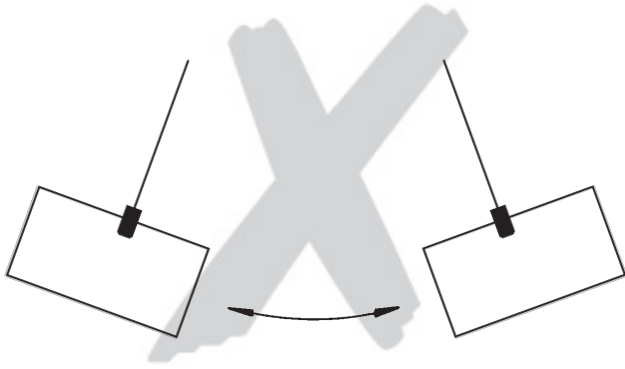
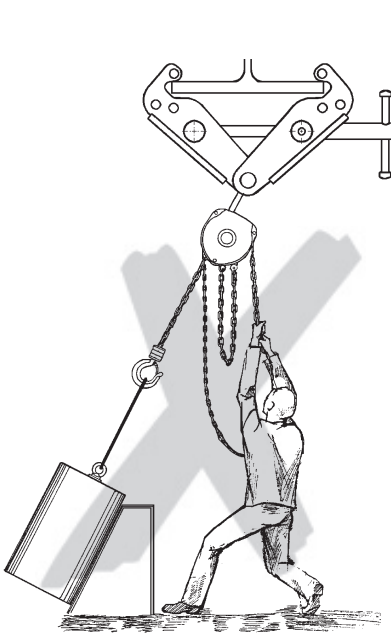
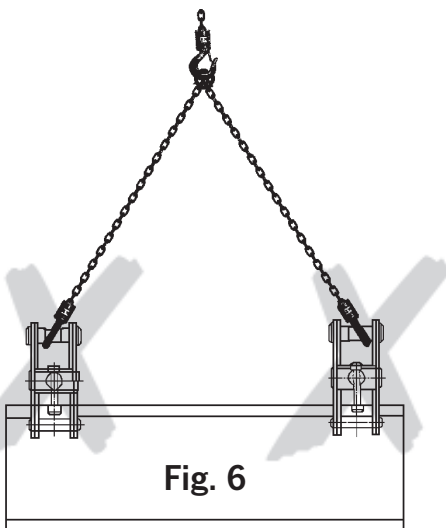

Fig. 1
Fig. 3
Fig. 6
- If the unit is to be used for transporting long steel beams, we recommend that two or more clamps in combination with a spreader beam be used to prevent impermissible sway (Fig. 1) and loading of the individual clamp by lateral pulling forces (Fig. 6). For this operation, the clamps on the load must have the same spacing to each other as the attachment points on the spreader beam used.
- When transporting loads ensure that the load does not swing (Fig. 1) or come into contact with other objects.
- Incorrect suspending and side loading of the load lifting attachment, i.e. side pull (in particular when the unit is used as a lifting clamp) is forbidden (Fig. 3, Fig. 6).